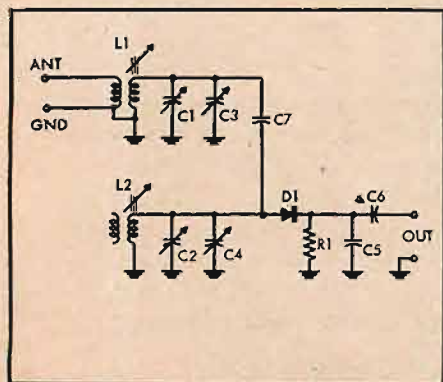

Fig. 1. A simple high fidelity AM tuner.
A. Here is one designed by the author and used successfully by him for some years. It is simple and low-cost but yet possesses excellent fidelity. As can be seen from Fig. 1, this is nothing more than the old-fashioned crystal set with an additional tuned circuit to improve its selectivity. The output of the receiver is quite low, so it must be fed into a high-gain microphone input to obtain sufficient listening level.
Construction: The unit may be built into one of the standard aluminum utility boxes, easily obtainable from any radio supply house. Be sure that coils L_1 and L_2 are shielded from each other, so that coupling can exist only via C_1 . It would be best to use coils which are already shielded; however, the shield can take the form of a strip of metal placed vertically between the two coils, and grounded to the box. Electrically insulate the variable capacitor, C_1 - C_2 , from the box. Run a piece of braid or bus wire from each wiper to separate points on the box. Make all ground connections for L_1 to the point where the wiper for C_1 is grounded; make all other ground connections to the point where the wiper for C_2 is grounded. C_3 and C_4 should be mounted directly across C_1 and C_2 if possible. C_7 is a capacitor made by twisting two pieces of insulated wire together. The gauge of the wire and the thickness of the insulation are not critical. One end of the pair is dead-ended, making sure there is no electrical contact between the wires. The other end of the twisted pair is connected as shown in Fig. 1. The twisted pair should be 6 to 8 inches long at the beginning of the alignment process.